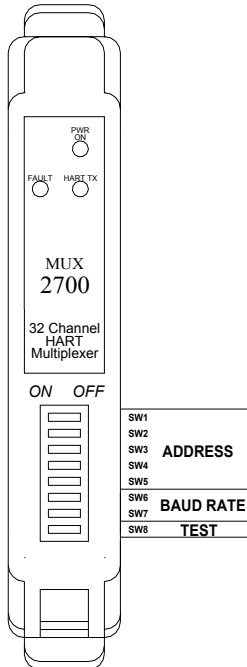

Figure 3
3.1.1 2700 Settings (See Figure 3)
Further information is given on the front and side labels (Figure 3). In particular, the side label gives the correct setting of every DIP switch combination.
3.4 Indicators (See Figure 3)